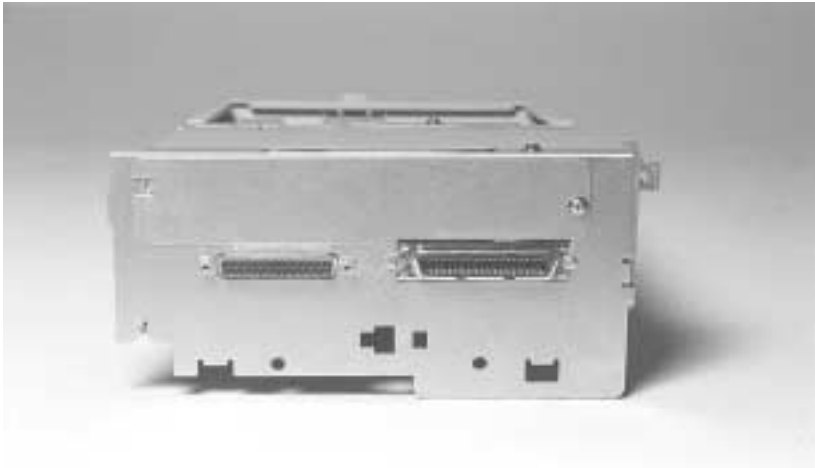

Figure 6-25b Interface Connector Support Screws (LaserJet 4)
- 5 Remove the (4) Interface Connector Support Screws from the rear of the Formatter Cover. The RS-232 connector is held with 5mm hex-head cap screws (see Figure 6-25b, callout 1). The parallel connector (see Figure 6-25b, callout 2.) is held in place with Phillips screws.